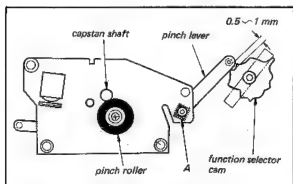
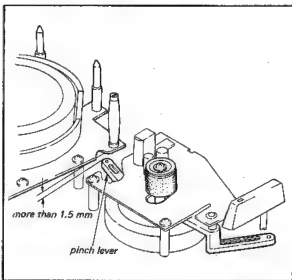
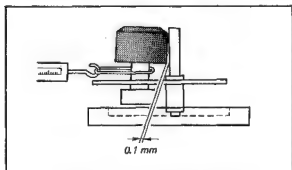

Fig. 4-24. Capstan deck adjustment
Fig. 4-26. Pinch lever adjustment
Fig. 4-27. Pinch roller adjustment
1. Set the Function Lever to **FORWARD**. Check that the clearance between the Pinch Lever and the Function Selector Cam is 0.5 to 1 mm. If necessary, readjust the position of the Capstan Deck Assembly. See Fig. 4-24.
3. Set the Function Lever to **FORWARD**. Check that the clearance between the upper end of the Pinch Lever and the lower end of the Drum Mounting Deck is more than 1.5 mm. See Fig. 4-26. If it needs adjustment, bend "A" in Fig. 4-24 with a pair of pliers.
1. Set the Function Lever to FORWARD. Check for 0.1 mm clearance between the lower end of the Pinch Roller and the Capstan Shaft when the upper end of the Pinch Roller contacts the Capstan Shaft. See Fig. 4-27. Bend "A" in Fig. 4-24, with a pair of pliers as needed to obtain the correct spacing.
2. Place the Function Lever in the FORWARD position. Make a loop in a piece of string and attach the spring scale around the base of the Pinch Roller Shaft. See Fig. 4-27. Pull the scale in the direction indicated by the arrow. Check the reading when the Pinch Roller just leaves the Capstan Shaft. It should be between 1.5 and 2.2 kg.